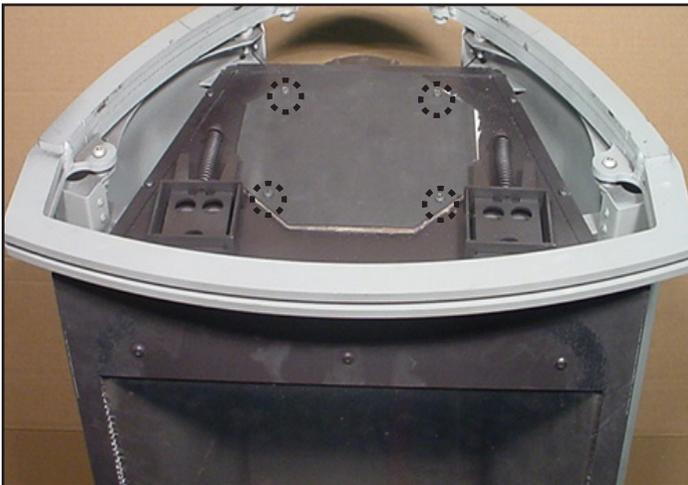

Figure 9.9
7. Install the cover plate with gasket to the top of gas stove with screws previously removed (**Figure 9.9**).